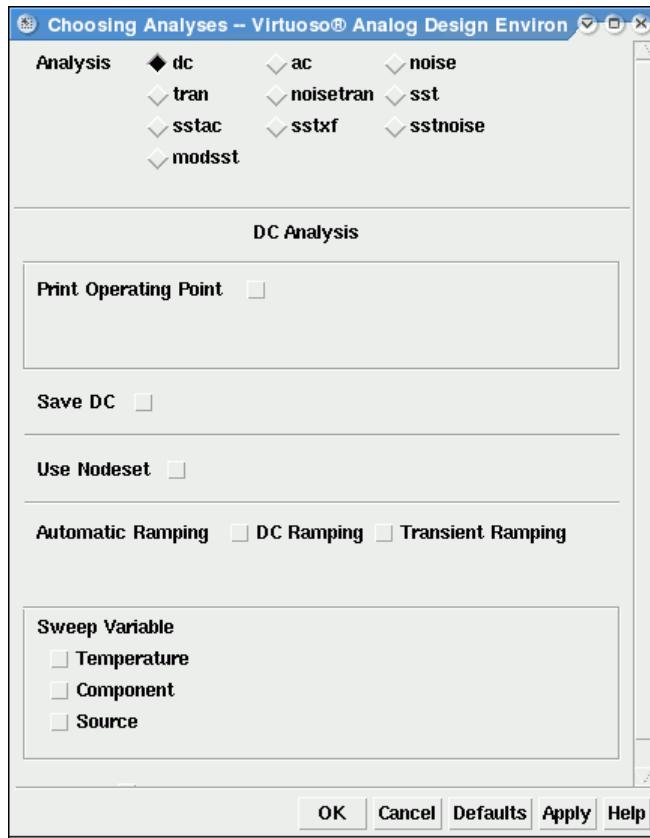

Fig. 18 Selecting simulation parameters
Left click **Analyses->Choose**. The *Choosing Analyses* dialog box comes up. Now specify the simulation. Select *Analysis: dc* (Fig. 18, next page), switch off *Print Operating Point*, select *Sweep Variable: Source* (1). Next you specify *Sweep Range*. Fill in *Start 0* and *Stop 5* and *By 0.01*. Left click at the box **Select S1**. Switch over to the schematic and select the the sweeping source by clicking at the pulse generator *drv* at the input of the inverter. Then switch back to the *Choosing Analyses* dialog box. In the *1stSource* field */drv* should appear. See if the *Enabled* checkbox is switched on and click at **Apply**. In the same window you can specify the transient simulation as well. Select **tran** and set *From Time 0*, *To Time 25n*. Switch on the *Enabled* checkbox and click **OK**. In the *Analyses* field of the *Analog Environment* window the specified data appear.